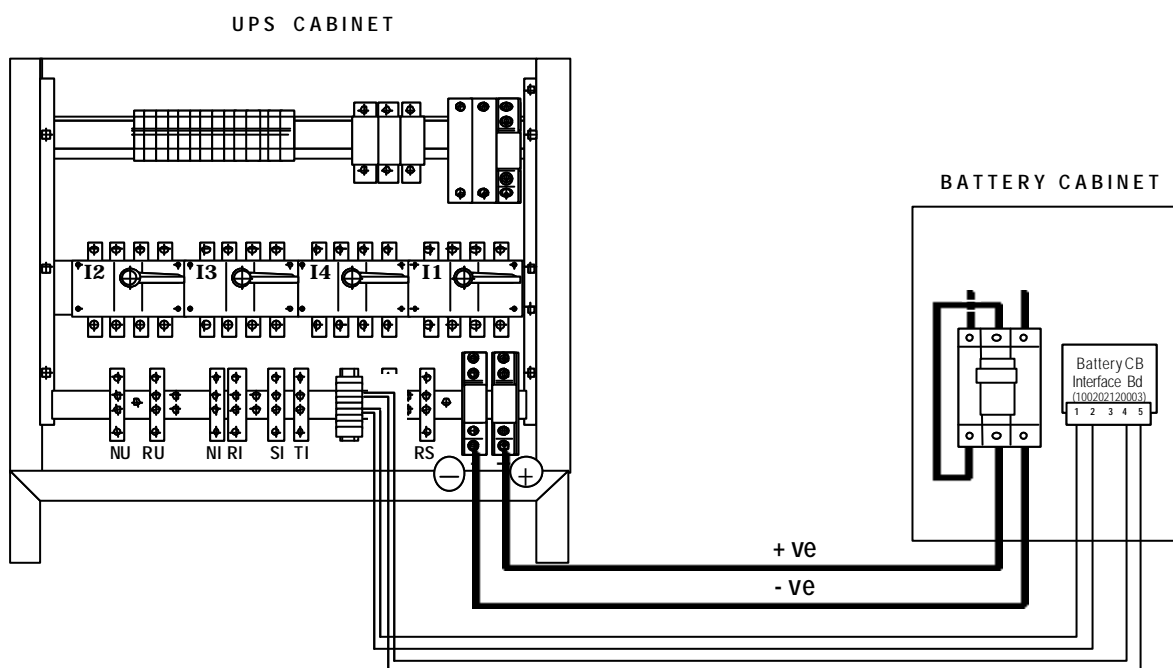

Figure 19: Battery C.B. box connections for 25-40kVA 1Ph UPS
Once the equipment has been finally positioned and secured, connect the power cables as described in the following procedure. Study the connection diagrams in figures 19 & 20 and positively identify the diagram relevant to your equipment before commencing cabling.
5. On each module, connect the battery cables between the UPS battery terminals and its associated battery circuit breaker -see figures 19 & 20. As a safety precaution remove the battery fuse in the module until the arrival of the commissioning engineer.
7. Connect the battery circuit breaker control cables between the UPS auxiliary terminal block and battery circuit breaker controller board as shown in figures 19 & 20.
Usually the 'box' is fitted as close as possible to the batteries. Figure 19 shows the details of the power and control cable connections between the circuit breaker box and UPS itself. These are similar to the connections made to the battery cabinet, previously described.